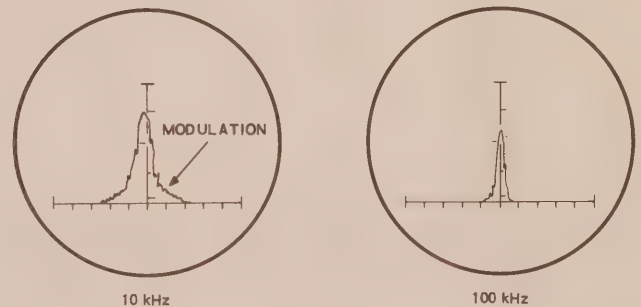

Figure 29
**Figure 29 - Normal AM:** Under no modulation the carrier will appear continuous. During modulation, the sides of the carrier will vary accordingly. These are the sidebands of an AM carrier.